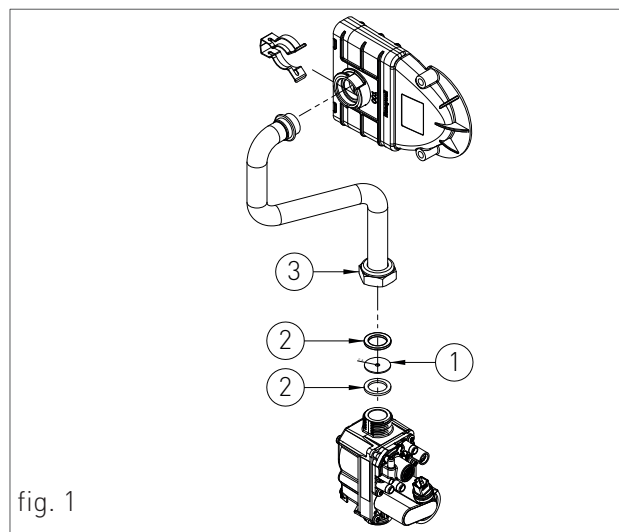

fig. 1
- › Insert the diaphragm '1' (for LPG – Ø 4 mm diaphragm - code 15-01728) and gaskets '2' and re-tighten the coupling '3' (see fig.1).
- › Remove the diaphragm '1' and re-tighten the coupling '3' (see fig.1).
- › Remount the components following the demounting operations in reverse (see fig.1);